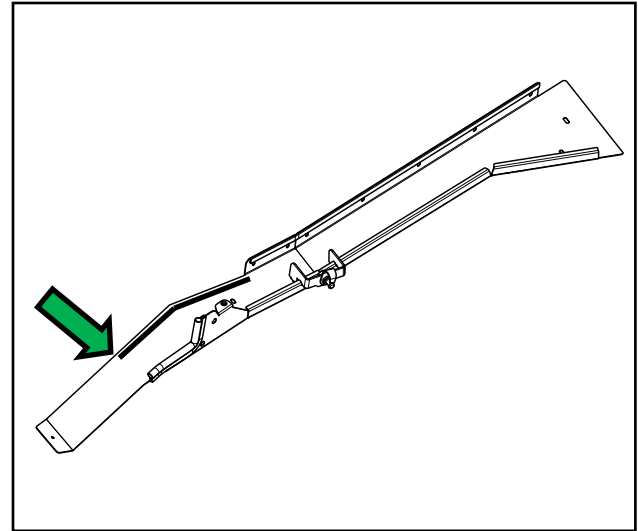

Fig. 3.1a Expanding Foam, Driver Side
**3.1** Per figures 3.1a & 3.1b, install Expanding Foam to the B-Pillar as shown. Over the next 24 hours, this foam will expand to fill the gap between the B-Pillar and the vehicle's side panels.
Figure 3.1a shows driver side foam installation. Note that there is a small notch, (reference the arrow in the figure) in the steel to show where to start the foam.